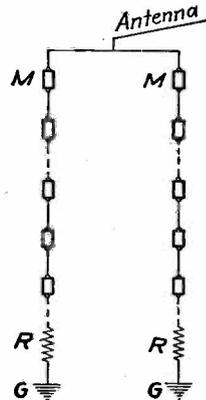
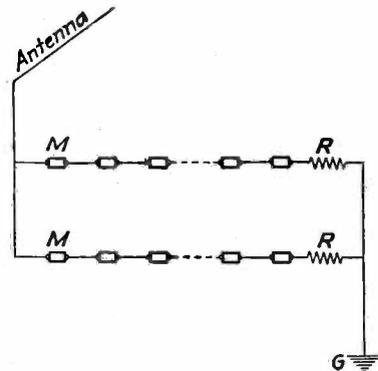

Fig. 1. Manner of connecting Multicouplers when two downloads are used. Maximum, thirty Multicouplers
Fig. 2. Typical layout when two horizontal branch risers are used. Maximum, eighteen Multicouplers
shown in Fig. 1; (3) Three downloads having three to six Multicouplers in series in each lead (It is not well to use more than three downloads with each antenna.); (4) One or two horizontal risers connected to a single antenna for two- or three-story buildings, as shown in Fig. 2.